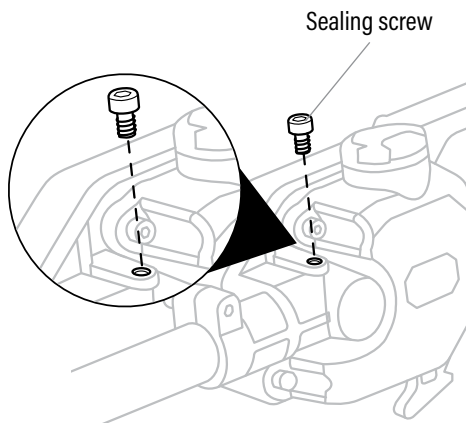

Fig. 17
1. Position the pole saw attachment on a firm, flat surface so that the sealing screw is facing upwards (Fig. 17).